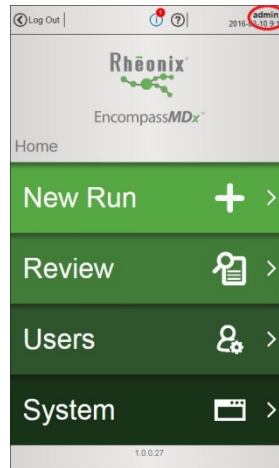

Figure 5-49: Press the username to bring up the Action Menu
- 5.18.1. After logging into the Encompass MDx® software with an administrator account, tap the username displayed in the top-right corner of the Home Screen, as indicated in Figure 5-49.